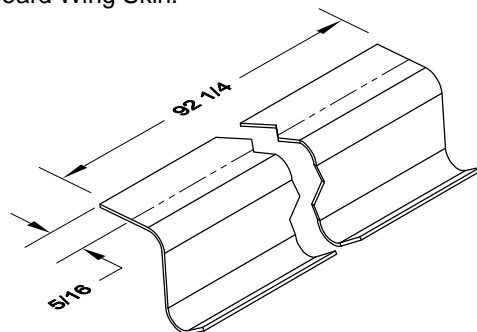

FIGURE 1: J-STIFFENER DETAIL
Step 1 (Quick Build): Fabricate the W-1028A Wing Box J-Stiffener - Long by cutting a piece of J-channel, 92 1/4 inches long. Draw a centerline on the flange as shown in Figure 1.